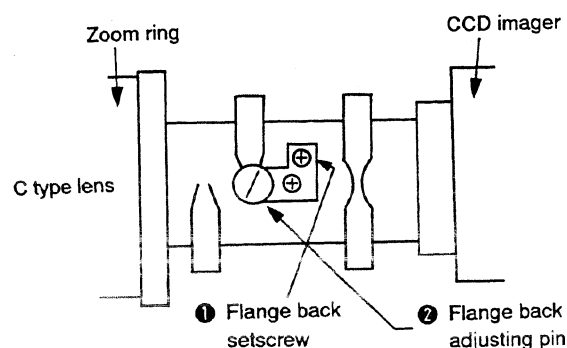

Fig. 7-12.
- 7) Open the DK-4 board and loosen flange back setscrew ① with a Phillips screwdriver. (See Fig. 7-12.)
- 8) By turning the flange back adjusting pin ② while watching the monitor screen, attain the optimum definition of a wedge at the Siemens star center on the screen. (Turn it a few turns to the left and right to ensure optimum definition.)